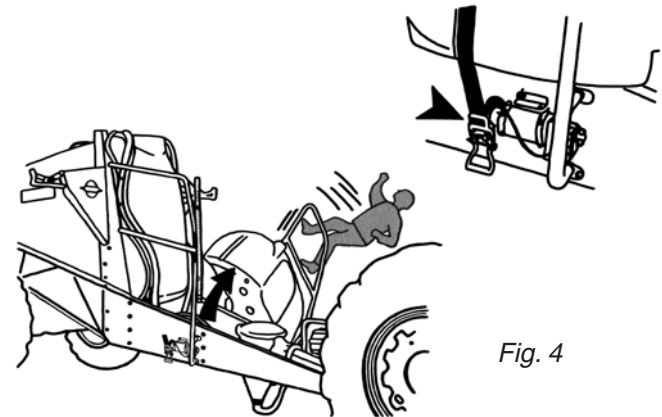

Fig. 4
**WARNING!** Always ensure the Flush Tank tie-down strap is secured before moving sprayer or climbing onto steps (Fig. 4).